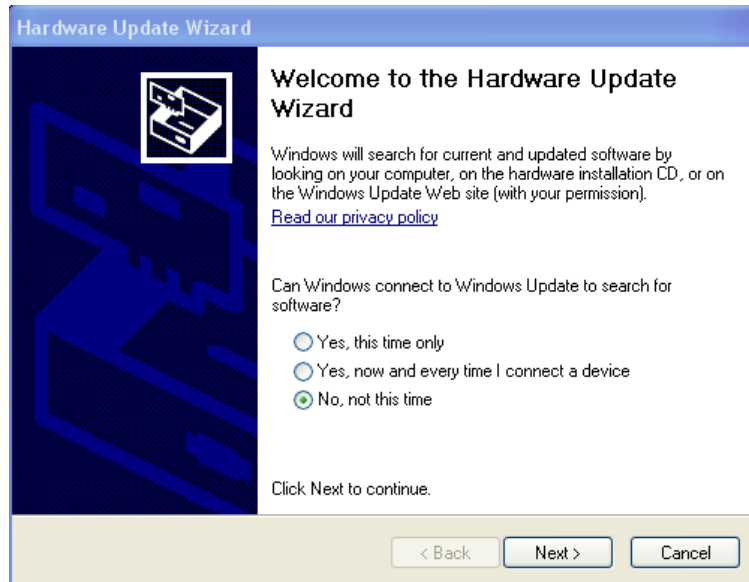

Fig. 43
- Power on the device and connect it to a spare USB port on your PC. This will launch the Windows Found New Hardware Wizard. If there is no available Internet connection or Windows XP SP 2 is configured to ask before connecting to Windows Update, the screen below is shown. Select "No, not this time" from the options available and then click "Next" to proceed with the installation (**Fig. 43**). If there is an available Internet connection, Windows XP will silently connect to the Windows Update website and install any suitable driver it finds for the device in preference to the driver manually selected.